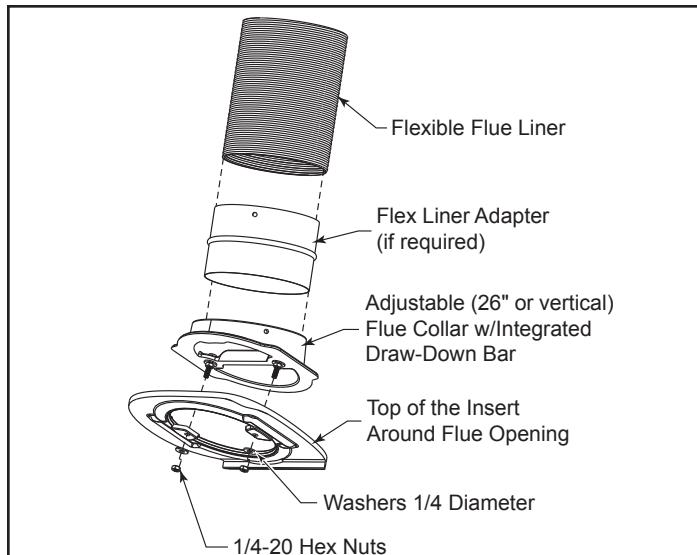

Figure 6 - Components of the venting system.
- Install the venting system:** Again, depending on your application it may be easiest to install the connector or stainless steel flue liner in the chimney first. Refer to Figure 6 for the components of the venting system.